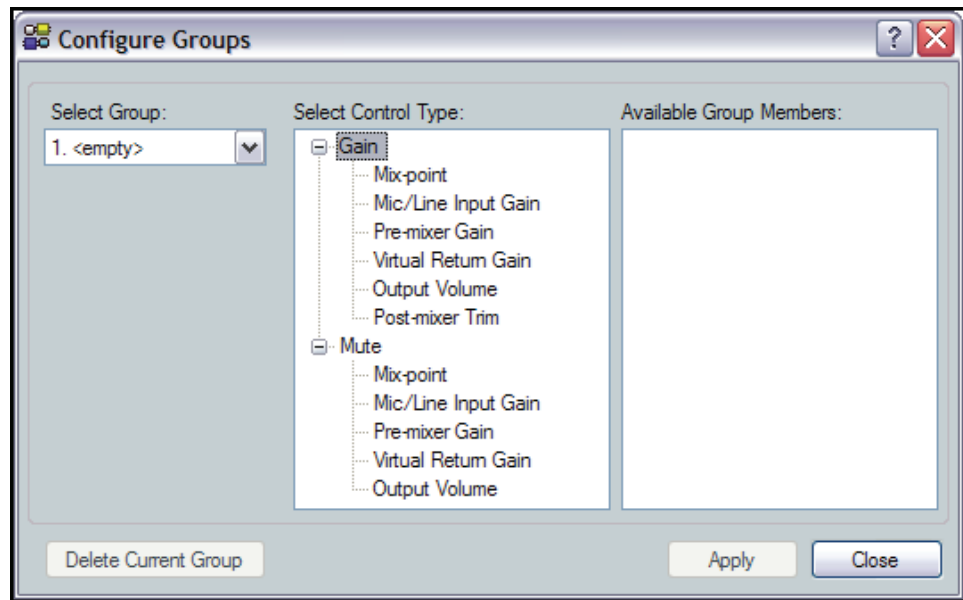

Figure 51. Configure Groups Add Group Dialog Box
2. In the **Select Group** drop-down box, click a group to select it (see figure 51). The list defaults to the first empty group. Select an empty group if necessary, or select an existing group to overwrite.